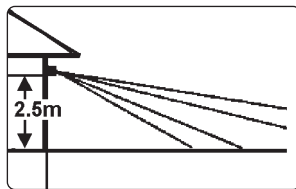
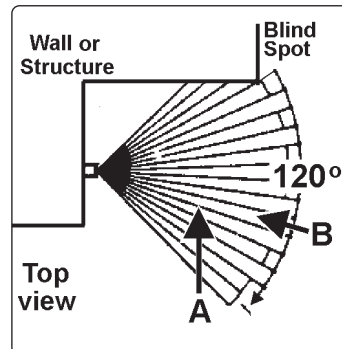

fig.1
fig.3
- 4.1.2. An approximate appropriate mounting height from the ground is 2.5m. See fig.1.
The sensor may be angled independently of the light. Mounted at approximately 2.5m above the ground the sensor will have approx 12m range (fig.1) with a 120° spread (fig.3)
- 4.2.2. Further adjustment may be made by tuning the three switches located on the underside of the sensor as follows: (fig.3).